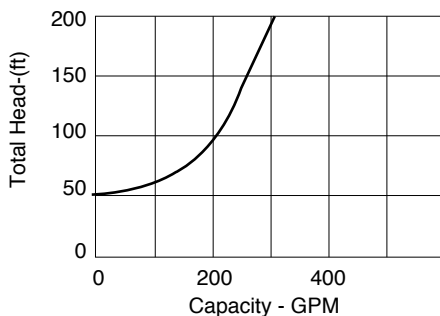

FIGURE 56. System Curve
- The curve is plotted, and it represents the requirement of the system at any capacity between 0 and 300 gpm, with the friction loss being zero at zero flow. The curve is shown in Figure 56.